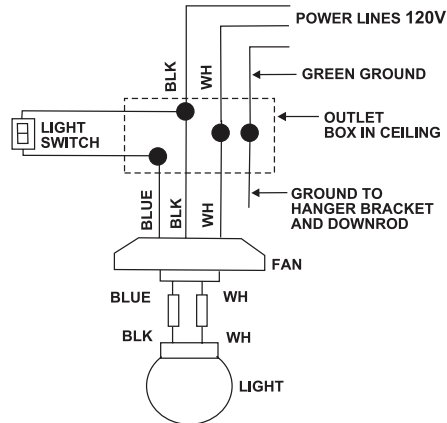

Figure 12
**Figures 12 & 13** illustrate the wiring connections for optional wall control (The wire color out of wall control may vary, see wall control's installation manual for correct wire connections.)